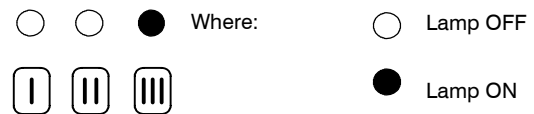

Fig. 21
- 4 Press the reset button D repeatedly (3 times) until the lamps F give the indication as in Fig. 21 (setting the tree way diverter valve mode operation).